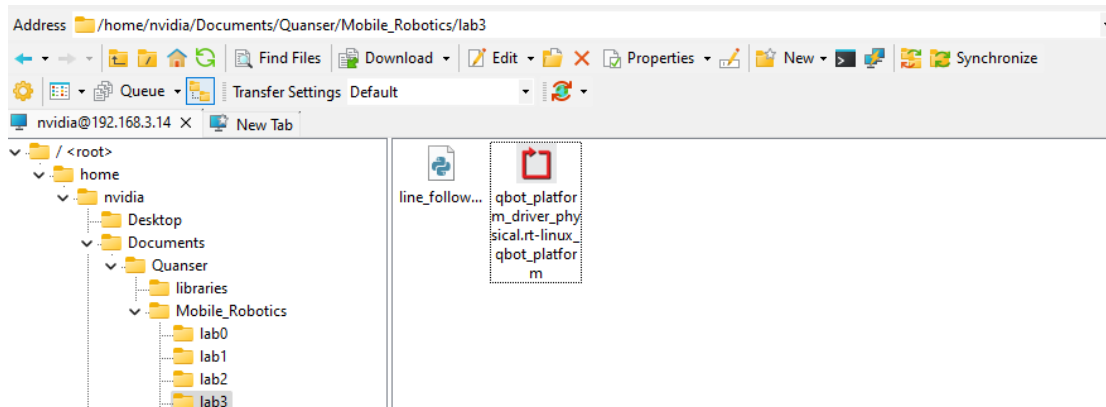

Figure 1. Correct directory for python script
- a. navigate to "~\Documents\Quanser\Warehouse_Robotics" and create a new folder "Lab3", as shown in Figure 1. Then copy the updated line_following.py to "Lab3". In addition, copy the qbot_platform_driver_physical.rt-linux_qbot_platform over. (You can just drag the files over).